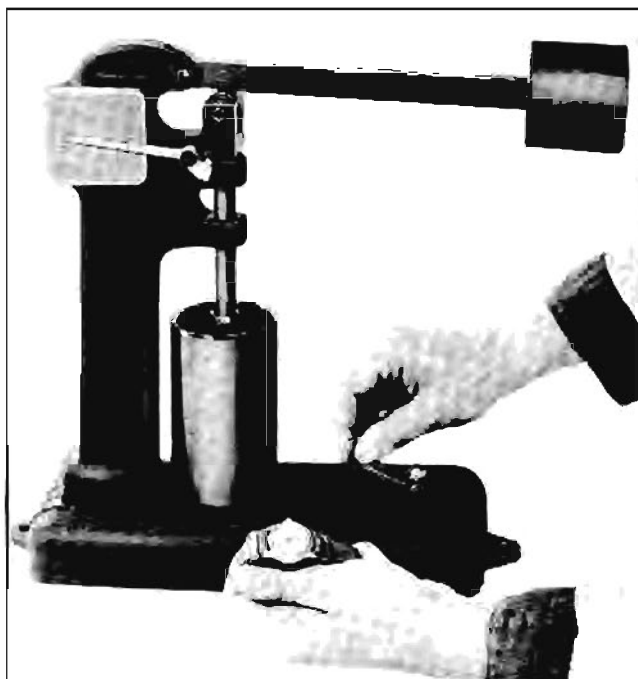

Fig. 6-25 Testing Leak Down Rate
After all lifters have been assembled, the leak down rate must be checked before they are installed in the engine. Valve Lifter Leak Down Tester J-5790 (Fig. 6-25) is designed to test leak down rate of lifters to determine whether or not they are within specified limits. As with previous service operations concerned with lifters, cleanliness is paramount. The tester cup, ram and ball should be thoroughly cleaned, and testing should be done in an area free of dust and dirt. The testing procedure is described in the following steps:
6. Raise weight arm to allow plunger spring to expand fully; lower arm onto ram and commence turning crank slowly (1 revolution every 2 seconds). Time indicator travel from lower line (first line above set line) to line marked $.125$ " or $\frac{1}{8}$ ", while still rotating cup with crank (Fig. 6-25). Lifter is satisfactory if rate is between 12 and 40 seconds.